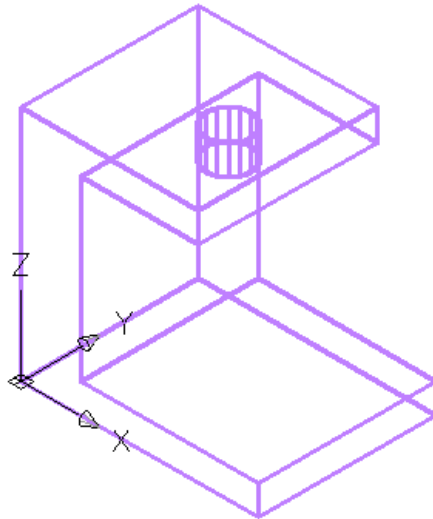

Figure Step 4A
Step 4 On layer: Solid 2, create a solid model as shown in the figure. Do not include the fillets and rounds. For the hole, extrude a circle. Check to ensure that your model is one solid object only using the Properties window. (Figure Step 4A and 4B)